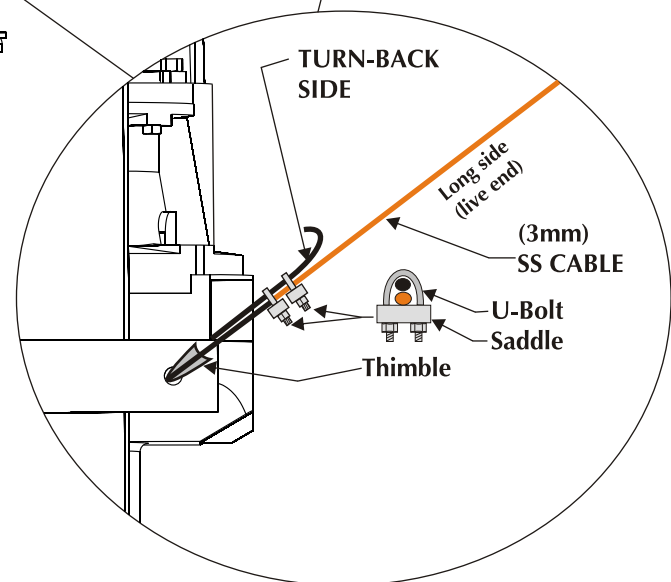

Fig. 16
4. Secure it with 1 thimble and 2 cable clamps using a 5/16" wrench (Fig.16). Repeat using the other 3 pieces of guy wire cables, thimbles and cable clamps (Fig.16).